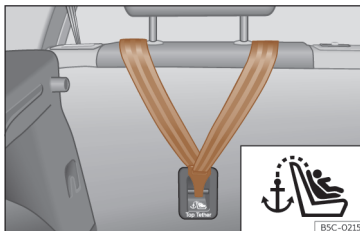

Fig. 38 Rear part of the rear seats: Top Tether strap anchor.
- Slide the strap and secure it properly with the anchor on the rear seat backrest >>> **Fig. 38**.